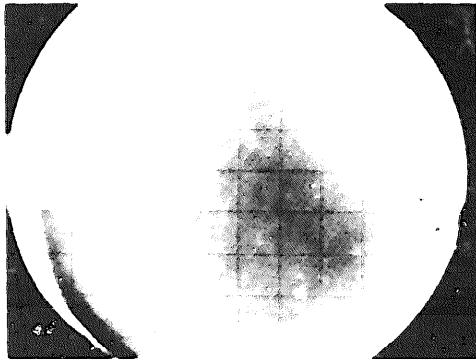

Figure 1-6. Background illumination occurs when erasing with WRITING RATE in MAX
- i. **BACKGROUND ILLUMINATION** - A green cloud illumination visible on the CRT screen. Figure 1-6.
n. Fig. 1-6 thru 1-13 are provided to show typical CRT displays with various control settings and input signals. They are examples which, if duplicated by the operator, will aid in understanding the operation of the Model 141A. Fig. 1-13 shows small bright spots on the CRT screen which are caused by minute imperfections in the storage mesh.